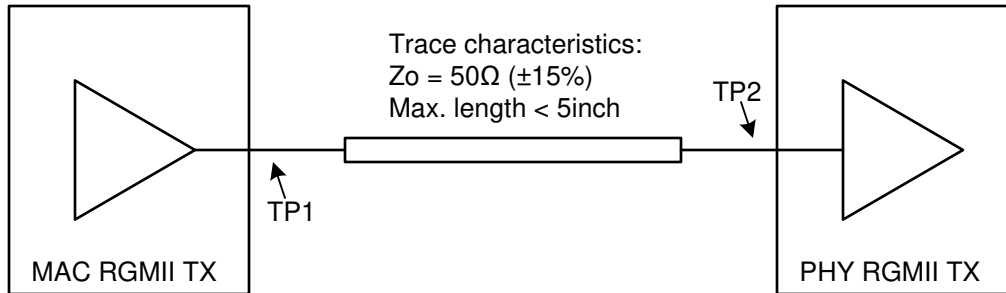

Figure 8-14. RGMII TX Requirements
- Figure 8-14 shows a RGMII interface requirements for TX* signals. MAC RGMII driver output impedance should be 50Ohm+/-20%.
- Skew for all RGMII TX signals at TP2, in Figure 8-14, should be <±500ps.
- Signal Integrity at TP1 and TP2, in Figure 8-14, should be verified with IBIS model simulation and ensured conformance to following requirements: